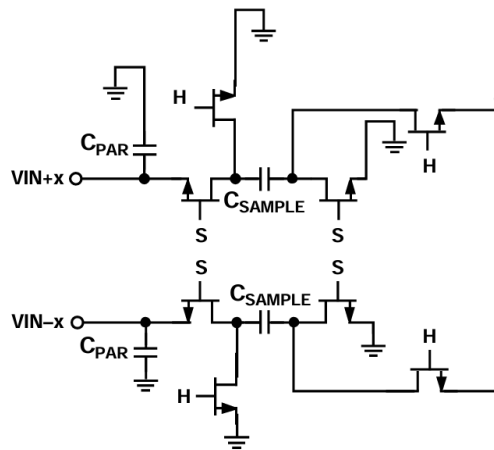

Figure 15. Switched capacitor input circuit
The input circuitry switches between sample and hold modes based on the clock signal (see Figure 15). When the input circuitry switches to sample mode, the signal source must be able to charge the sampling capacitor and complete the build-up within half a clock cycle. A small resistor is connected in series at each input to help reduce peak transient current injected from the driver output stage. Furthermore, low-Q inductors or ferrite beads can be used on each side of the inputs to reduce the high differential capacitance at the analog inputs, thereby maximizing the ADC's bandwidth. Low-Q inductors or ferrite beads must be used when driving the converter front end at high-frequency (IF). A differential capacitor or two single-ended capacitors can be used at the inputs to provide a matched passive network. This ultimately forms a low-pass filter at the inputs to limit unwanted broadband noise.